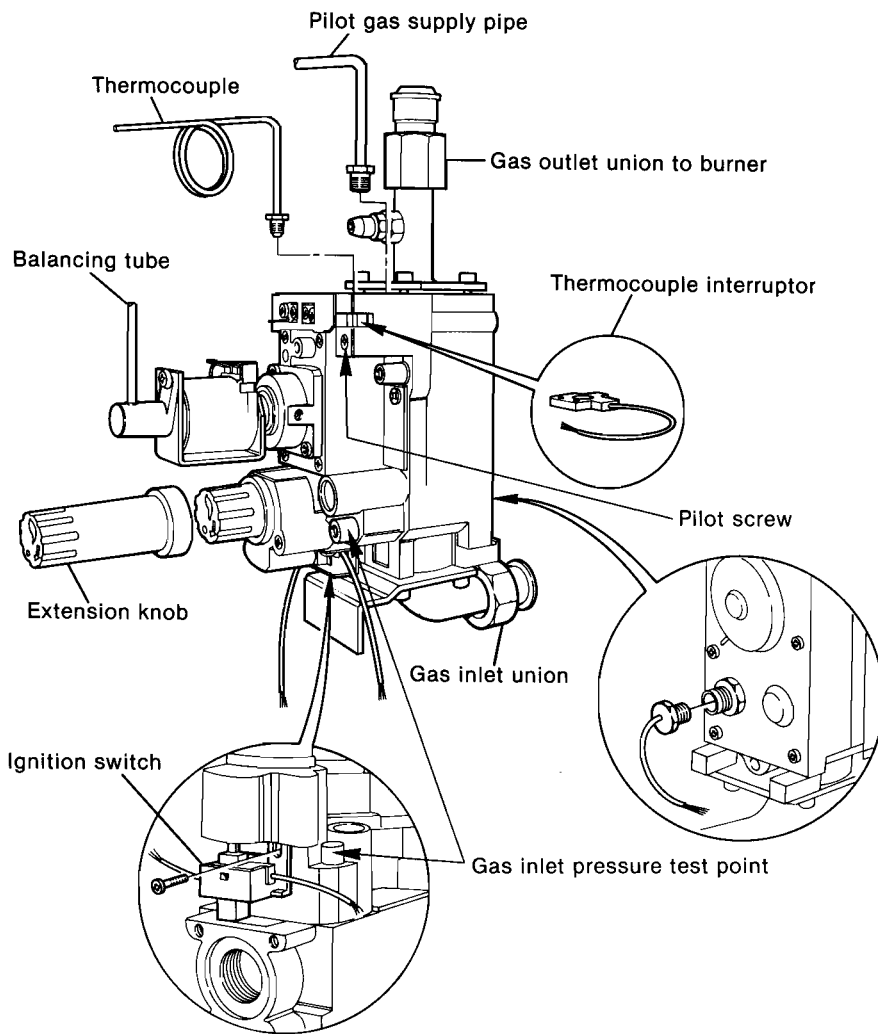

Fig. 31
- b) Disconnect the thermocouple from the Honeywell valve (use a 10 mm spanner) (fig. 31).
- c) Unscrew the pilot supply pipe compression nut from the Honeywell valve (fig. 31).
6.0 HONEYWELL GAS VALVE (fig. 31)